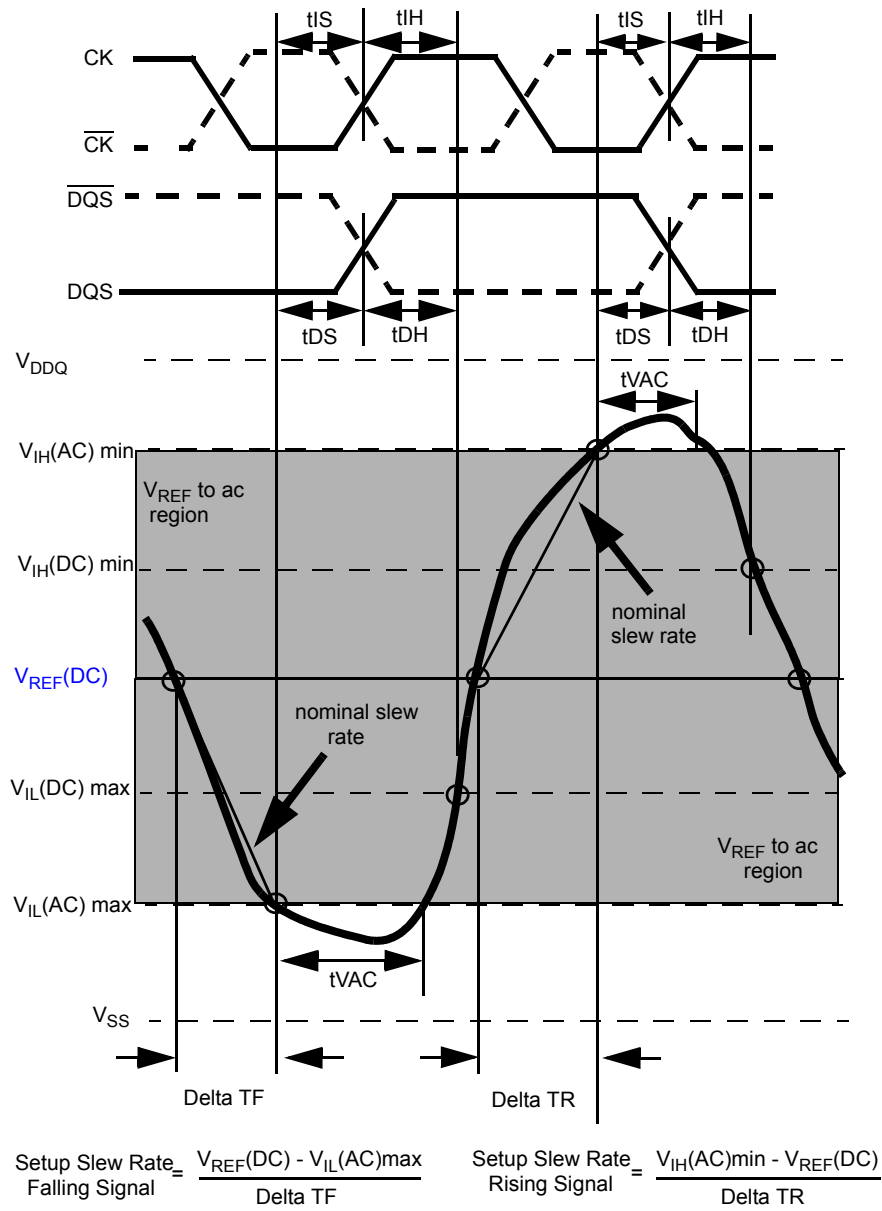
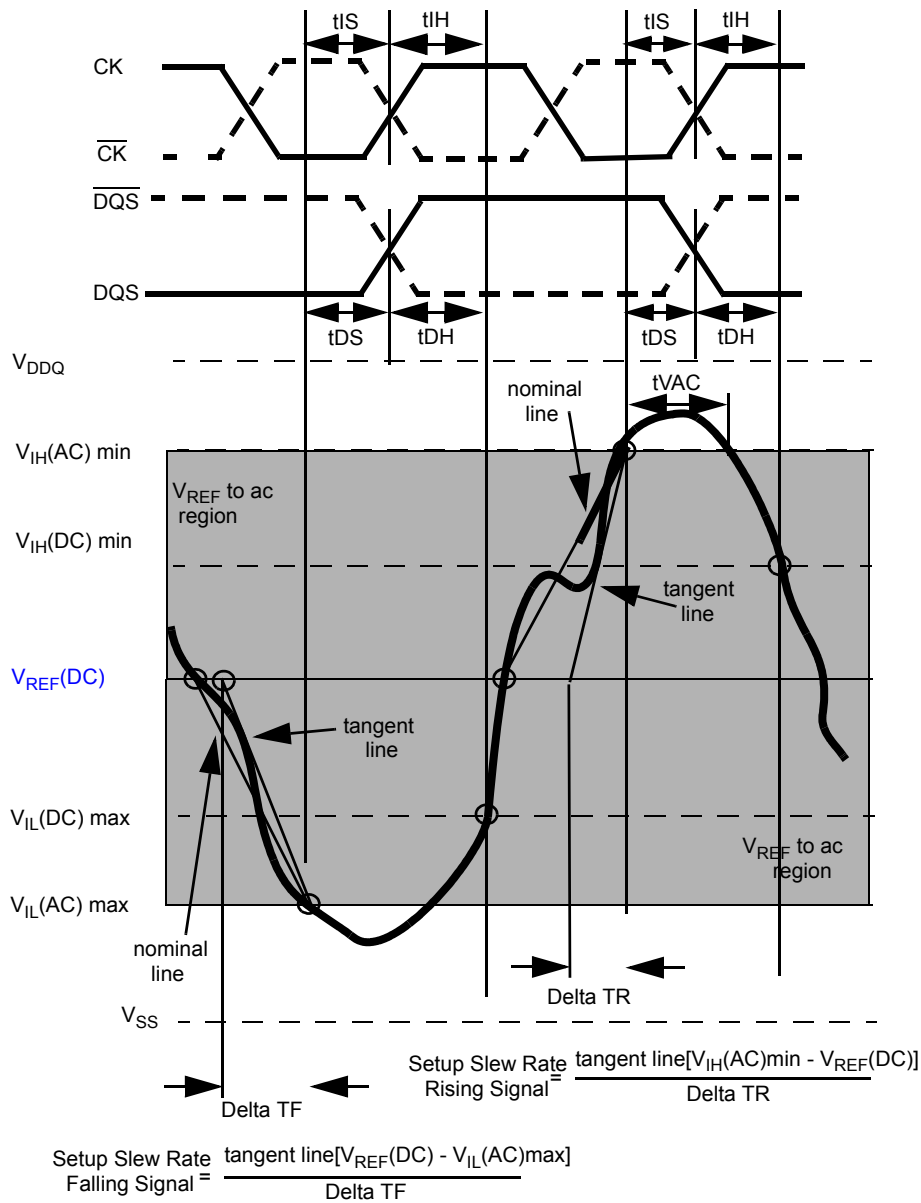

Figure 25 - Illustration of nominal slew rate and tVAC for setup time tDS (for DQ with respect to strobe) and tIS (for ADD/CMD with respect to clock).
Figure 27 - Illustration of tangent line for setup time  $t_{DS}$  (for DQ with respect to strobe) and  $t_S$  (for ADD/CMD with respect to clock)
Setup (tDS) nominal slew rate for a rising signal is defined as the slew rate between the last crossing of VREF(DC) and the first crossing of VIH(AC)min. Setup (tDS) nominal slew rate for a falling signal is defined as the slew rate between the last crossing of VREF(DC) and the first crossing of VIL(AC)max (see Figure 25). If the actual signal is always earlier than the nominal slew rate line between shaded 'VREF(DC) to ac region', use nominal slew rate for derating value. If the actual signal is later than the nominal slew rate line anywhere between shaded 'VREF(DC) to ac region', the slew rate of a tangent line to the actual signal from the ac level to dc level is used for derating value (see Figure 27).